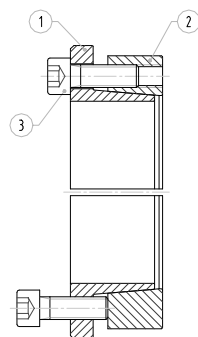

Fig. 1
(Refer to fig.1)
2. Loosen all screws by minimum 2 turns and transfer at least 2 screws to push-off threads in the collar item [1] in order to disengage tapers for easy installation of locking assembly (see fig. 1).